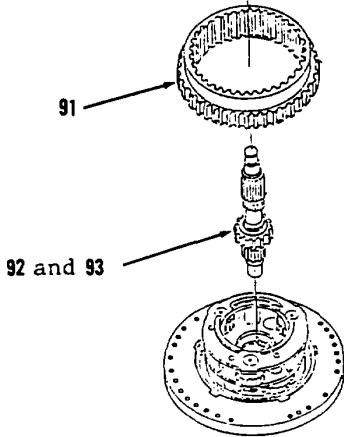

Figure 14-64.
- 14. Install gear (91) and items 93 and 92 as an assembly (Figure 14-64).